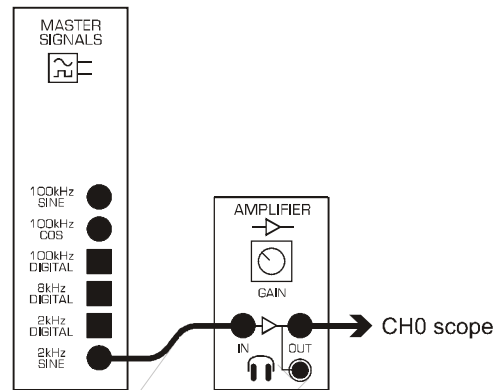

Figure 14: "adjust_the_AMP" wiring diagram
1. Use patching cords to wire up DATEx blocks according to the wiring diagram in Figure 14.
An example for controlling a TLPF block from LabVIEW is shown in Figure 14: